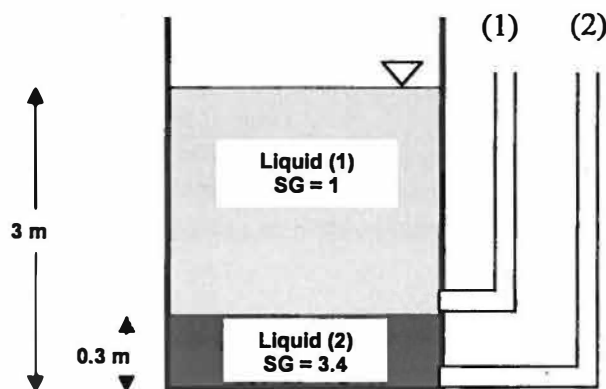

Figure 1.10
1.10 (Tutorial). The tank shown in Fig. 1.10 contains two different immiscible liquids. Determine the elevation reading obtained using manometer (1). Determine the elevation reading obtained using manometer (2). Determine the total pressure at the bottom of the tank.